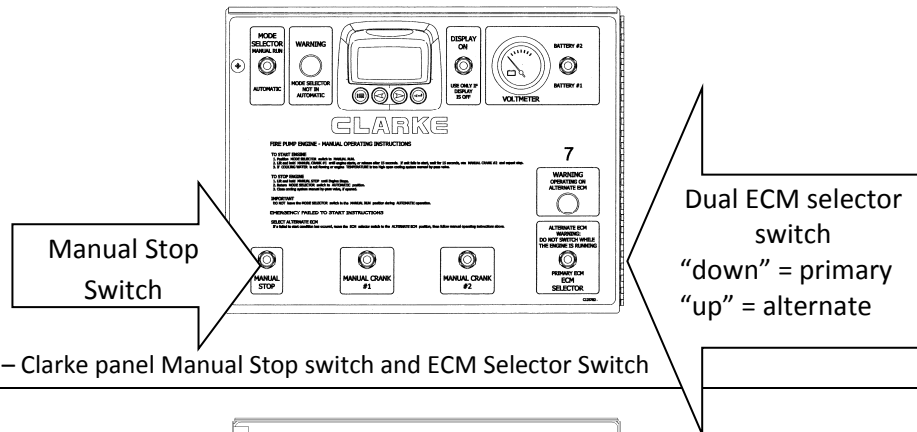

Figure 2 – Clarke panel Manual Stop switch and ECM Selector Switch
- Select the PRIMARY ECM by holding the ECM SELECTOR SWITCH in the “down” (PRIMARY) position for 2 seconds. (see Figure 2)
- Note, on PLD engines with variable speed pressure control the engine **may be** running at a speed less than 30 RPM’s below the rated speed. Therefore, to perform the overspeed verification, the PLD must be disabled by unplugging PLD wiring from the instrument panel (connector is located on the right-hand side towards the top of the panel, see Figure 2). This will allow engine rpm to reach rated speed.
- Repeat all of the above alarm verification tests on ALTERNATE ECM by setting the ECM selector switch to ALTERNATE (see Figure 2). Only switch to ALTERNATE ECM with the engine stopped.
- After alarm verifications have been completed on both ECMs, place engine back on PRIMARY ECM by setting the ECM selector switch to PRIMARY (see Figure 2) and set controller back to AUTOMATIC (standby) position per fire pump controller operator’s manual.